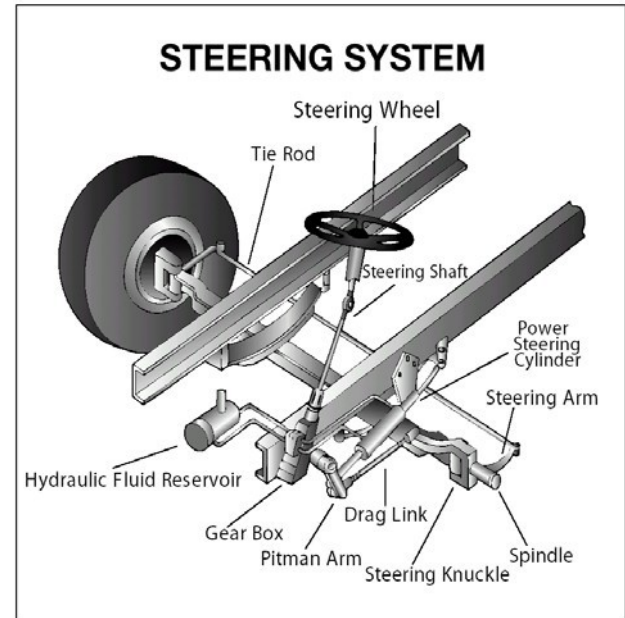

Figure 2.1
- ☐ Bent, loose, or broken parts, such as steering column, steering gear box, or tie rods. **See Figure 2.1.**
- ☐ Steering wheel play of more than 10 degrees (approximately two (2) inches movement at the rim of a 20-inch steering wheel) can make it hard to steer.